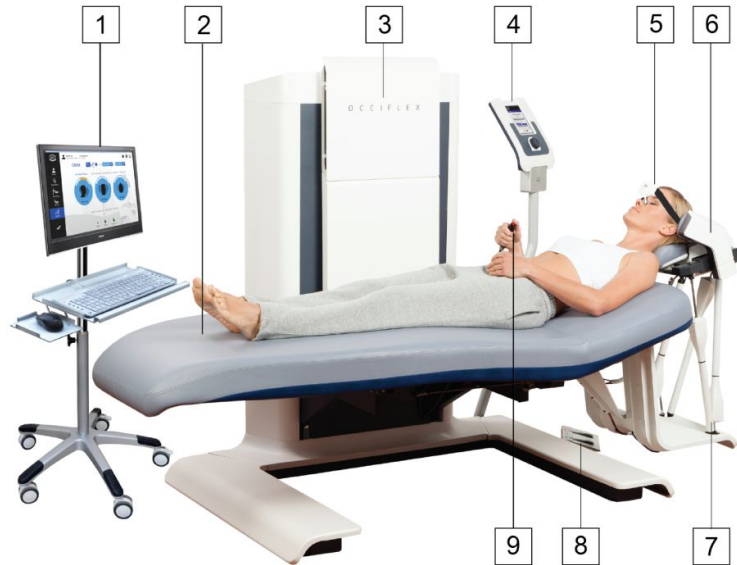

fig. 1
1. a computer with a screen, keyboard, and mouse (see fig. 1 item [1]), with the Occilink application.
2. a touch screen control panel on the treatment table itself for the operation of the bed and the hexapod (see fig. 1 item [4] and fig 3.).